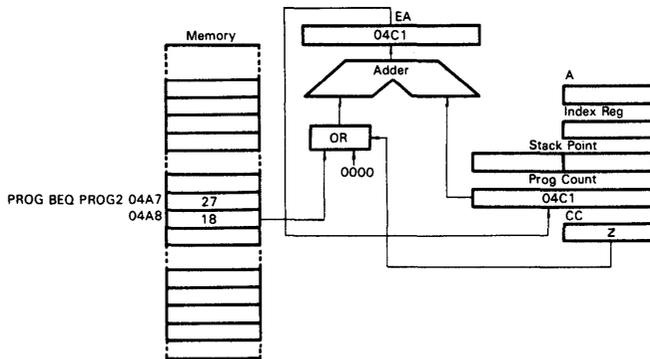

Figure 25 Example of Relative Addressing
See Fig. 25. The relative addressing mode is used with branch instructions only. When a branch occurs, the program counter is loaded with the contents of the byte following the operation code. $EA = (PC) + 2 + Rel.$, where Rel. indicates a signed 8-bit data following the operation code. If no branch occurs, Rel. = 0. When a branch occurs, the program jumps to any byte in the range +129 to -127. A branch instruction requires a length of 2 bytes.